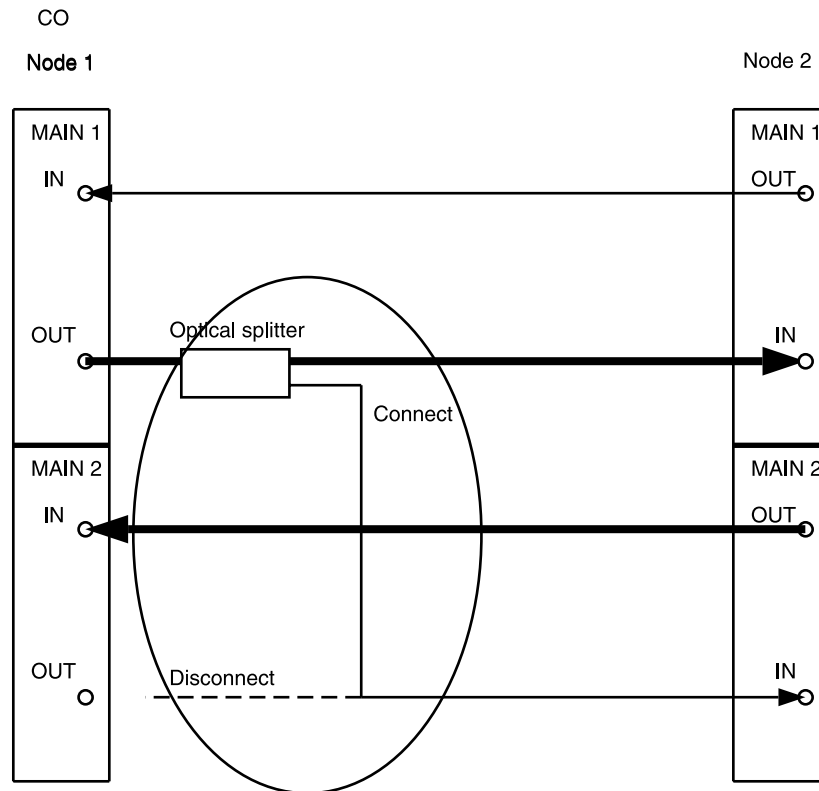

Figure 5 – DDM-2000 OC-3 Drop or Add/Drop Network to Ring Upgrade
15. At Node 1, remove optical fiber from **OLIU MAIN 2(P) OUT** and connect it to the other output of the optical splitter. (See Figure 5.)